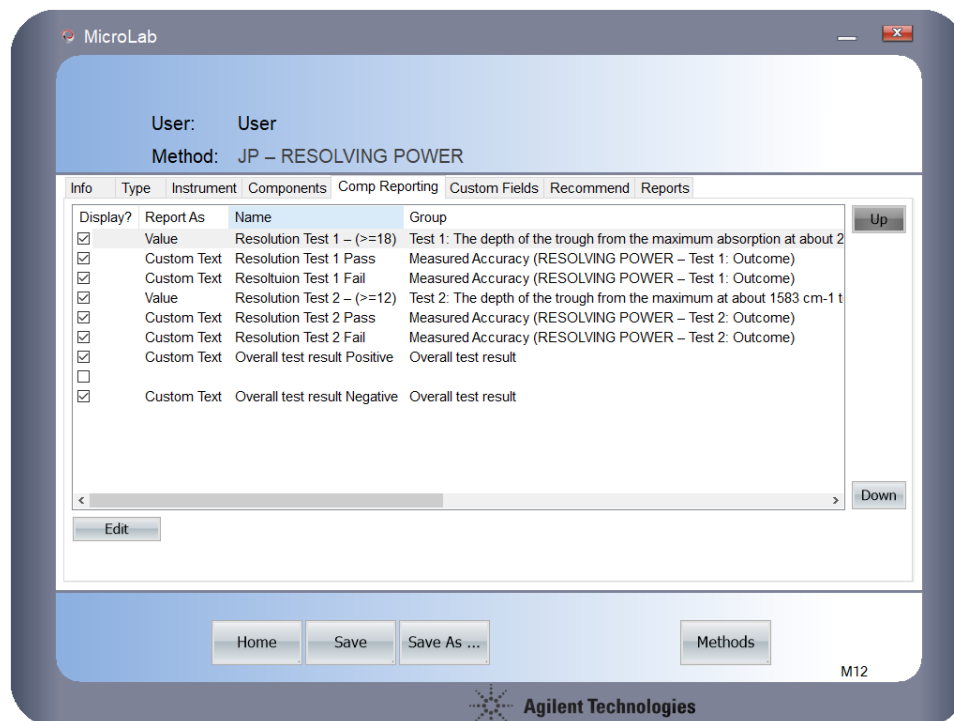

Figure 11. Comp Reporting tab for the Resolution Power method
- 50 Use the **Up** and **Down** buttons to bring the components in the order seen in Figure 11.